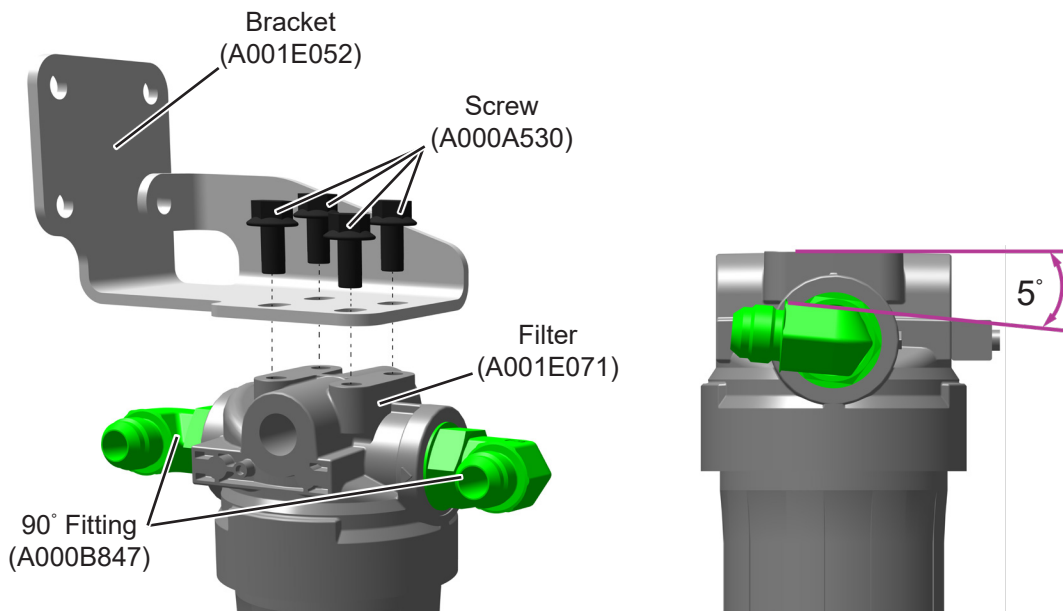

Figure 5
18. Install 90° fittings in filter assembly. See Figure 5. Final tighten 90° fittings to 93 ft. lbs.
19. Apply Loctite™ #242 to threads of four 3/8-16 x 0.75 inch screws (A000A530) and install filter mounting bracket (A001E052) to top of filter assembly (A001E071). See Figure 5. Final tighten screws to 25 ft. lbs.